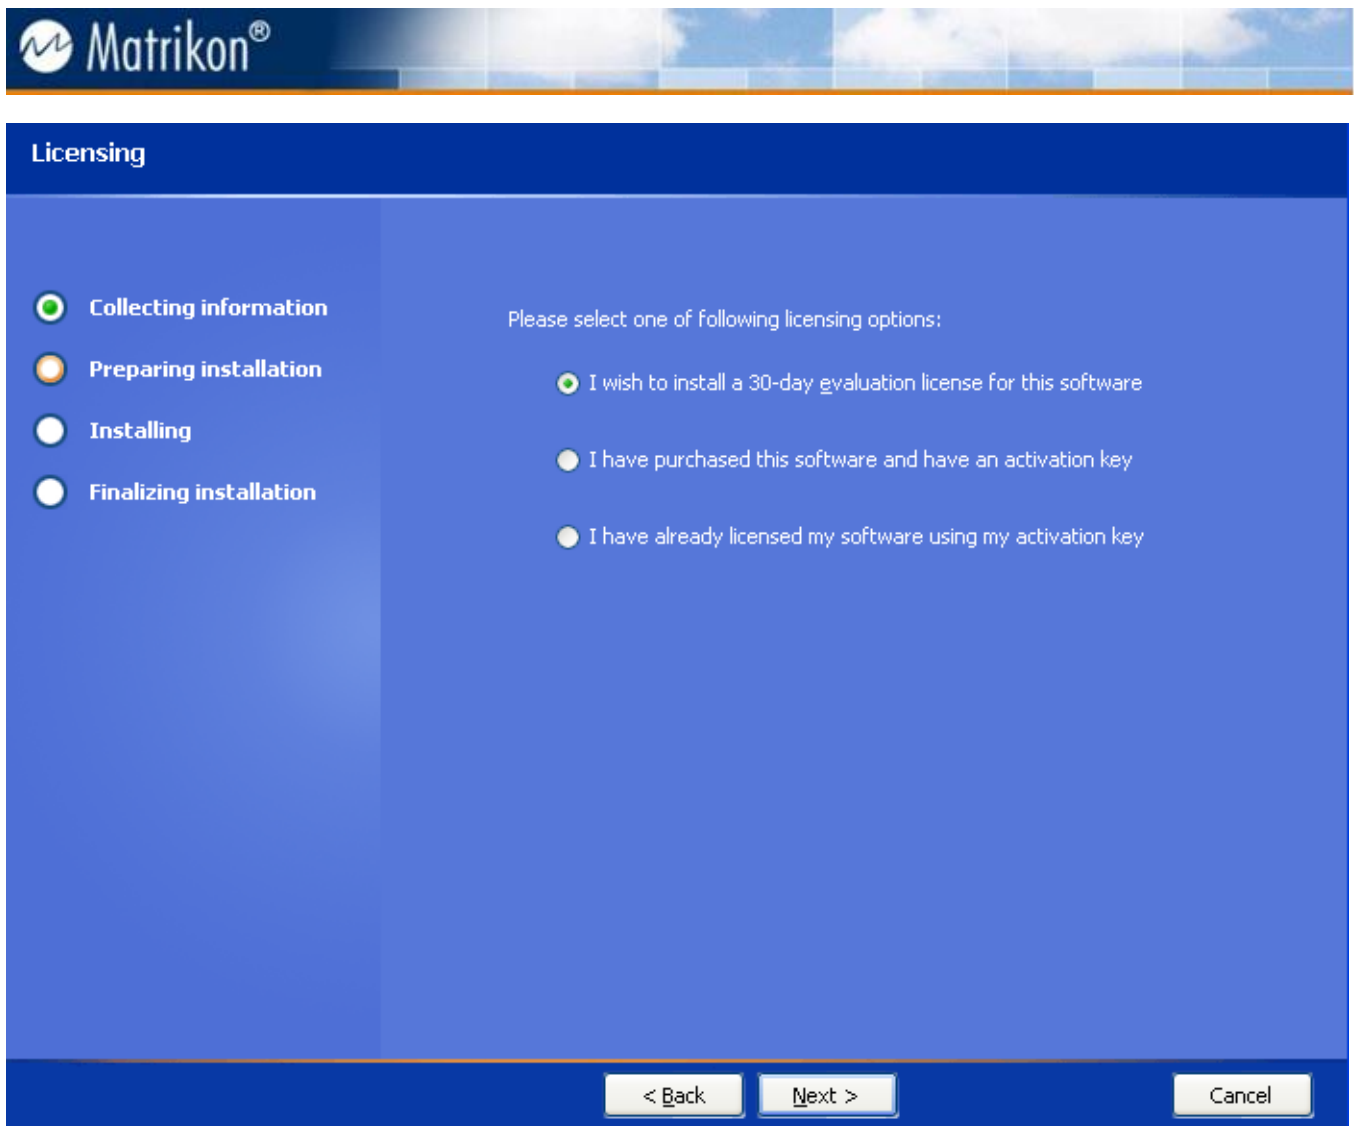

Figure 85 - Licensing Screen
18. Click on the **Next** button to accept the default password. The **Licensing** screen (Figure 85) appears.